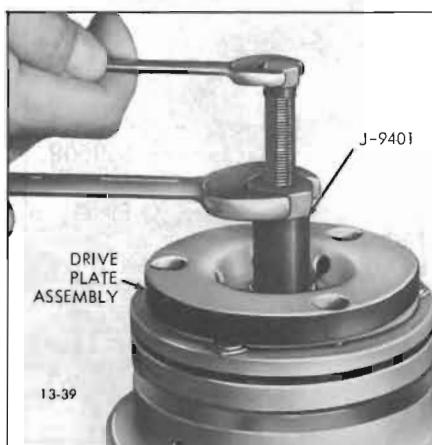

Figure 13-39—Removing Clutch Drive Plate
3. Install threaded Hub Puller (J-9401) onto hub of clutch drive plate (see Figure 13-39). Hold body of hub puller with wrench, tighten center screw of hub puller, and lift off clutch drive plate and woodruff key.